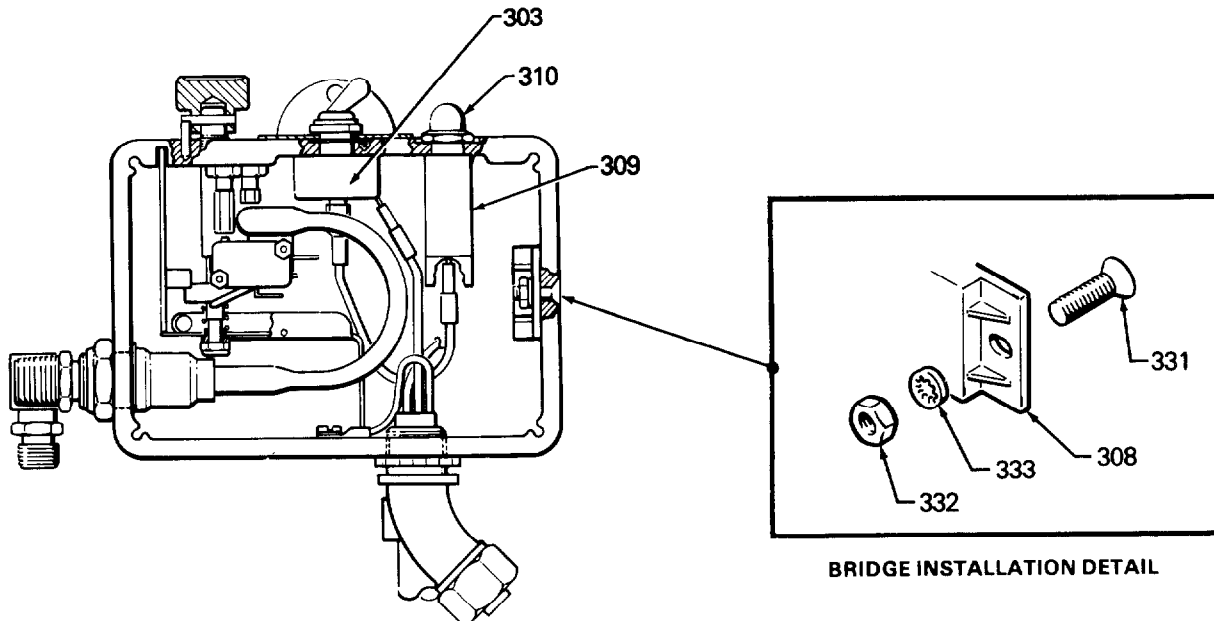

Fig 14
BRIDGE RECTIFIER REPLACEMENT (Refer to Fig 14)
2. Disconnect all wires from the bridge (308) at the appropriate terminals.
3. Outside the pressure control box on the right side are two screws (331). *Loosen*, but don't remove the screw near the back of the control box. Then loosen and remove the front screw. Slide the bridge out.
4. Slide the new bridge (308) into the box being sure the lockwasher (333) on the rear screw (331) is *IN FRONT* of the bridge. Refer to the Detail in Fig 14.
5. Install the front screw, lockwasher and nut (332).
The lockwashers (333) must be in front of the bridge to avoid overheating which will result in bridge failure. Refer to the Detail in Fig 14.
CIRCUIT BREAKER REPLACEMENT (See Fig 14)